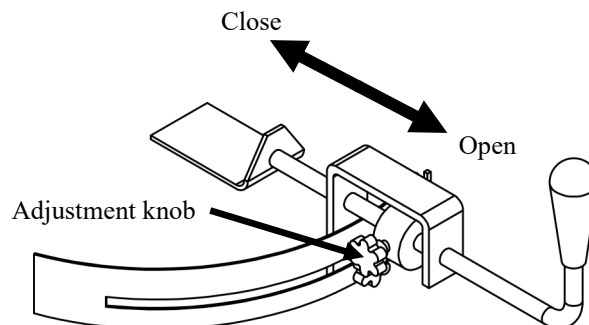

Fig. 5
1. Loosen the knob located on the Adjustment Handle rod (See Fig. 5). Slide the Adjustment Handle in towards the hopper to spread less material, out away from the hopper to spread more material. Sliding the handle all the way in will close the gate and no material is spread.